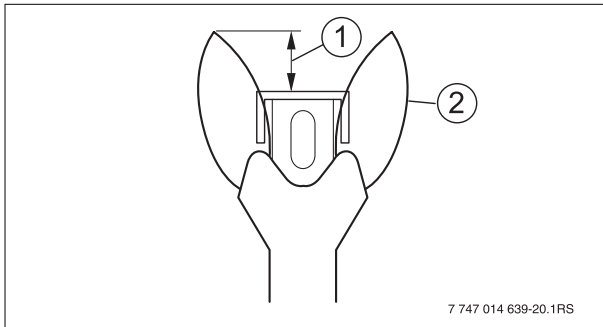
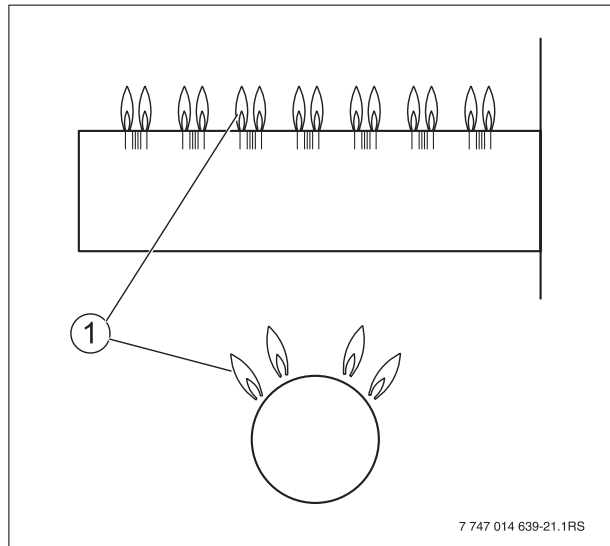

Fig. 35 Correct pilot flame setting
Fig. 36 Main burner
21. Test the safety switch by closing the gas shut-off. The main burner flame (→ Fig. 36) and the ignition flame (→ Fig. 35) are extinguished. After six (6) seconds at the most the main gas solenoid valve on the gas valve must close with an audible noise.